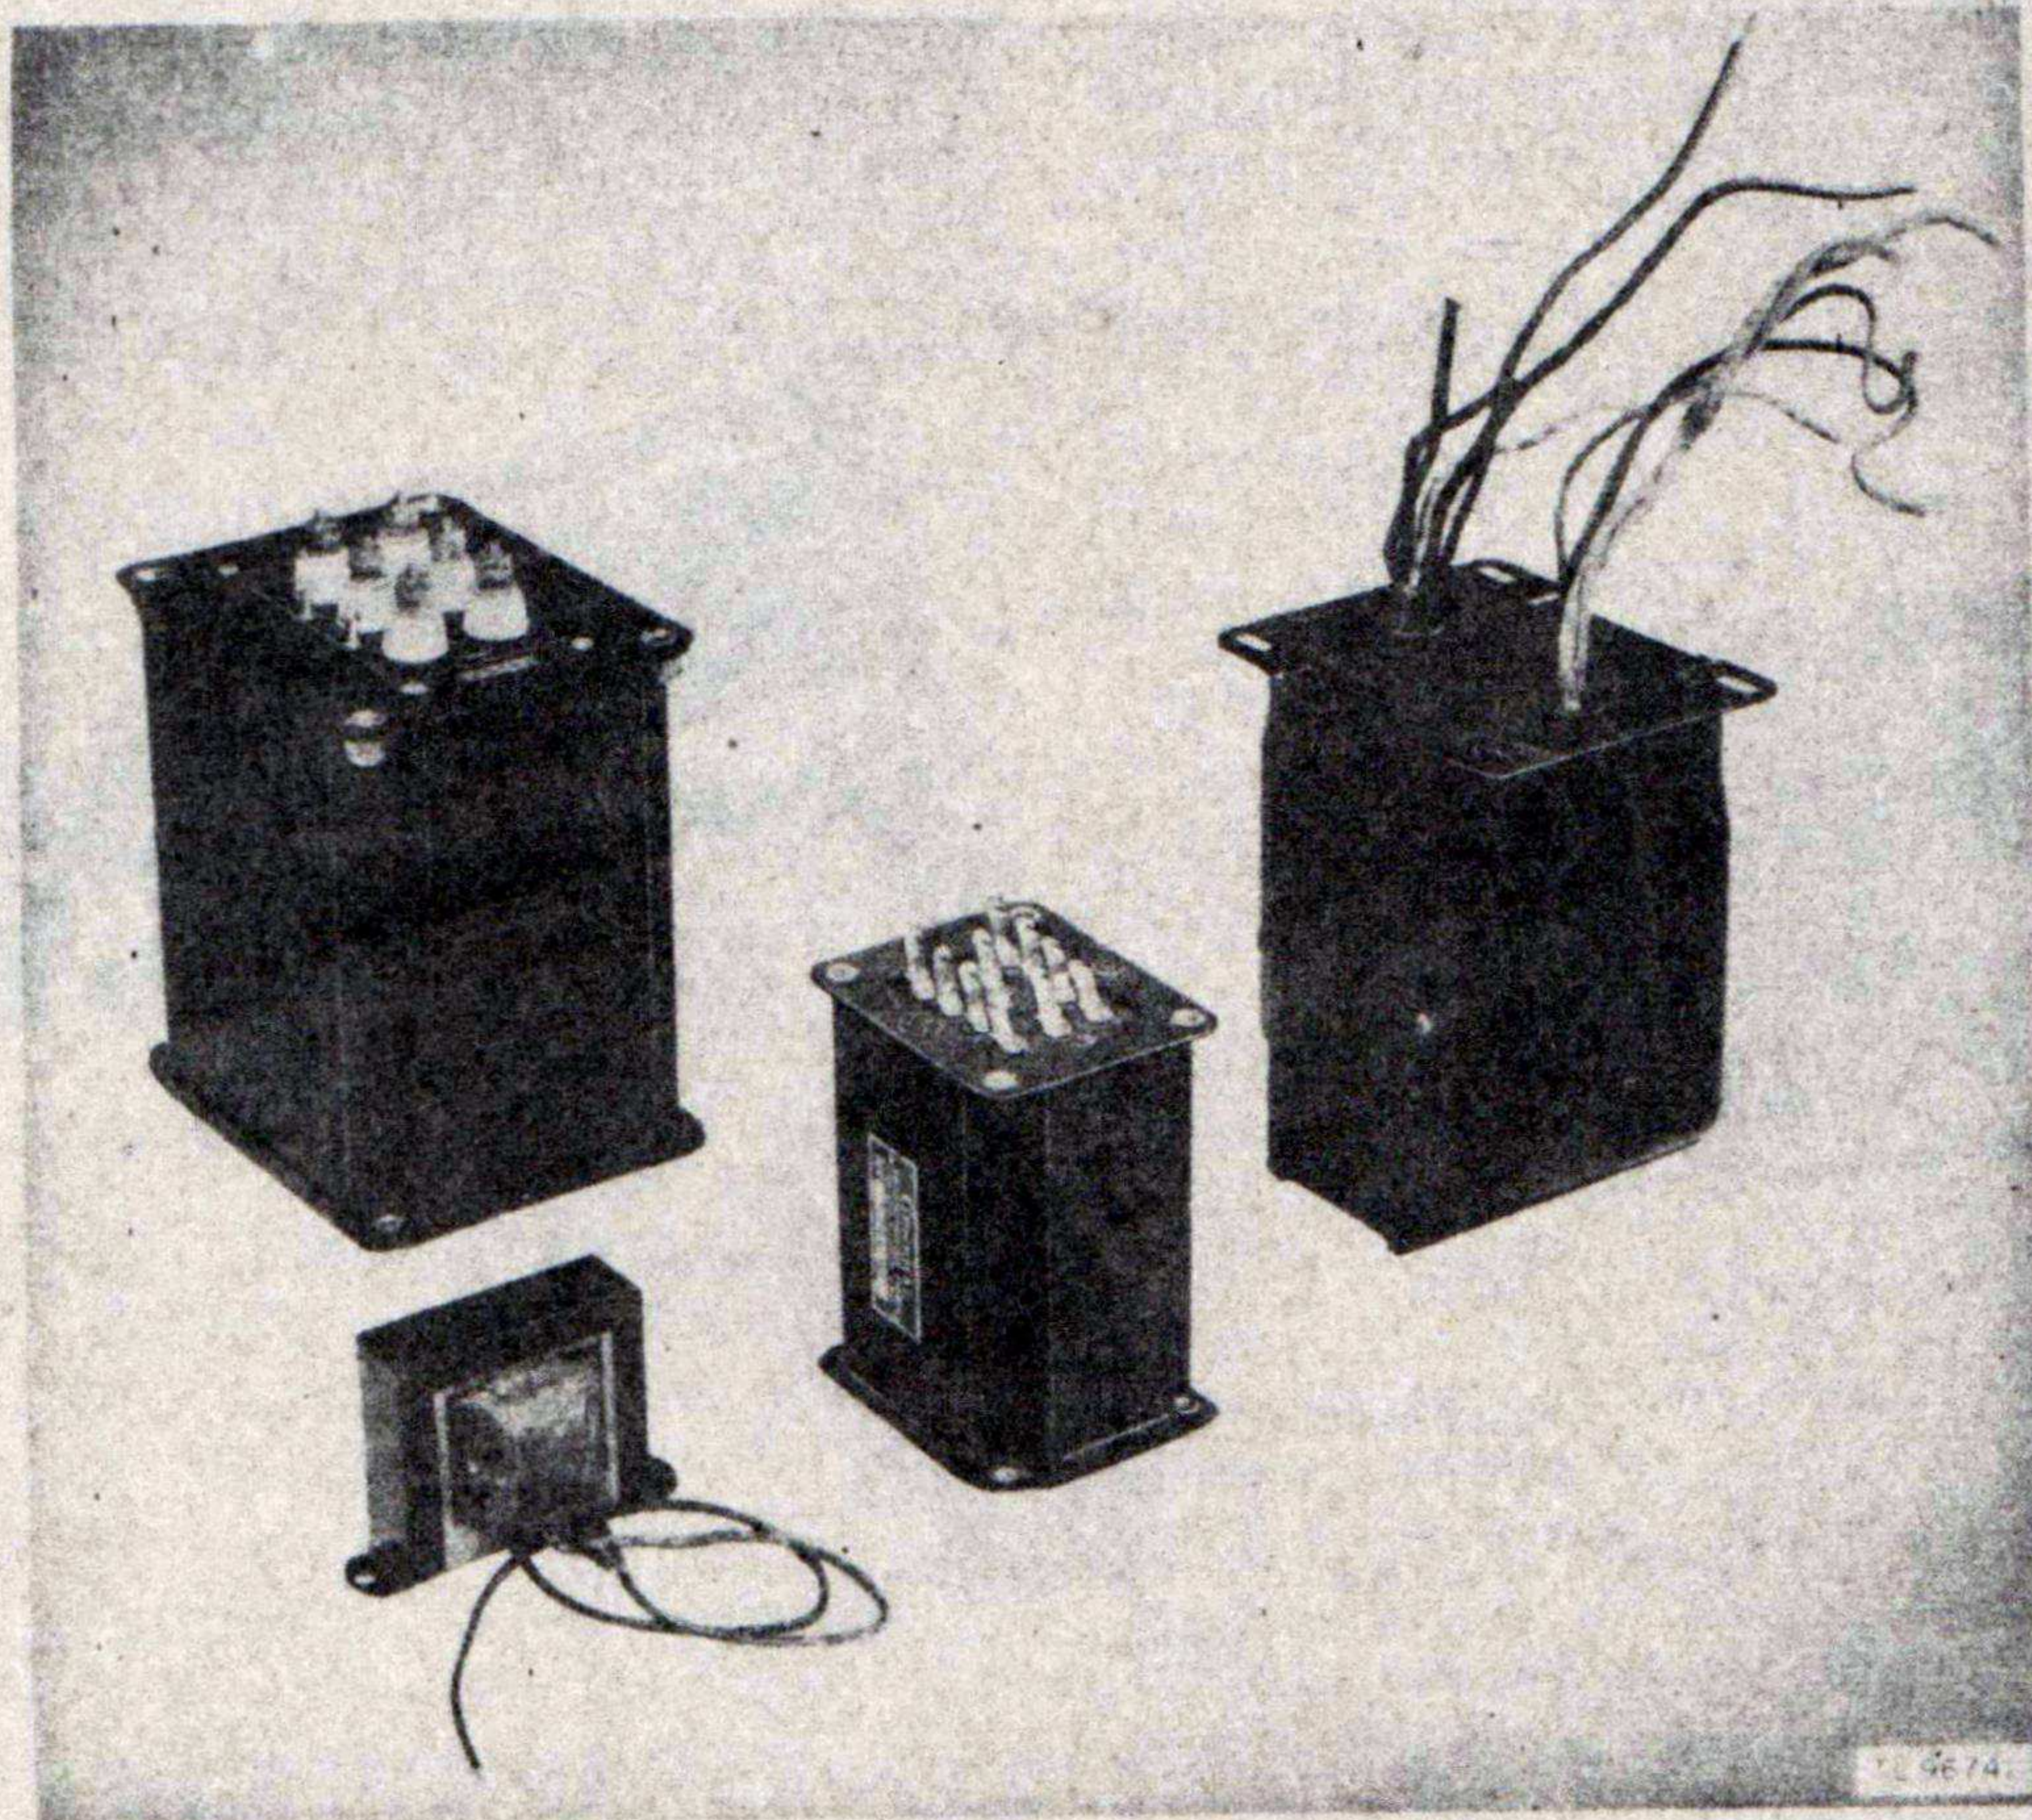

Figure 21. Typical transformers and chokes.
37. TRANSFORMERS AND CHOKES (fig. 21).
a. Inspect (I). Inspect all transformers and chokes for dirt, corrosion, and loose mountings and connections.